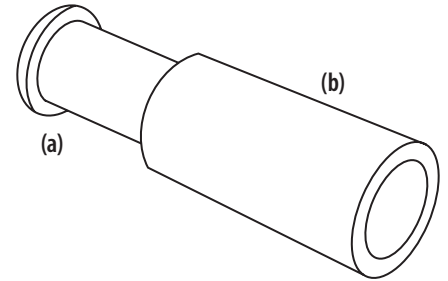

Figure 5-29
- Remove the inner filter (a) from the paper element (b). See Figure 5-29.